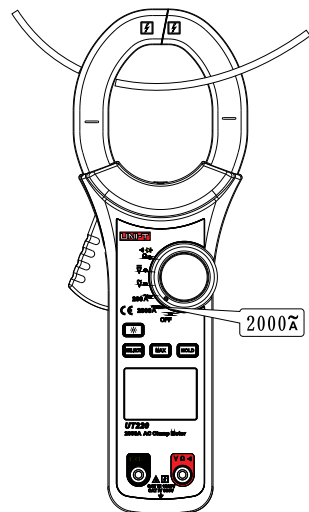

Figure 8
6. 2000A AC current measurement (2000 $\tilde{A}$) (See Figure 8)